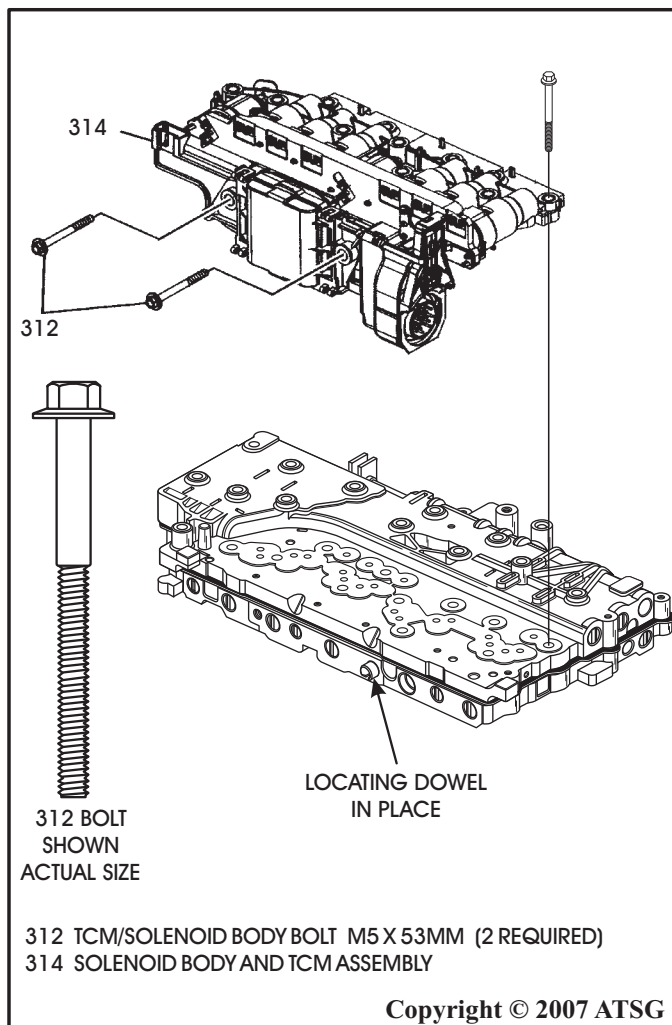

Figure 146
25. Install the Solenoid Body/TCM onto the valve body and start the two attaching bolts through the side, as shown in Figure 146, and hand tighten only at this time.
Note: Solenoid Body/TCM assembly must be aligned with the locating dowel, as shown in Figure 146.